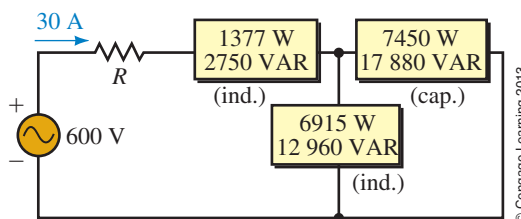

FIGURE 17-47
21. For Figure 17-47, the generator supplies 30 A. What is R ?